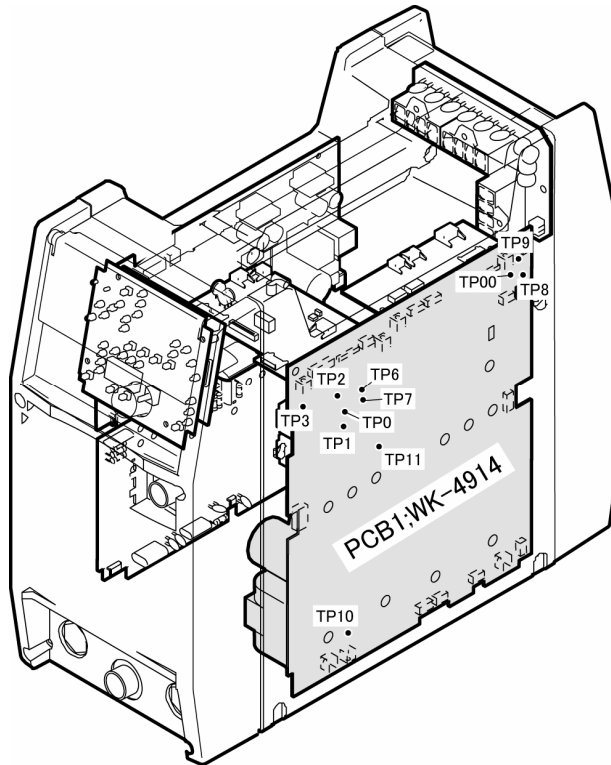

Figure 12 The check points TP0-3, 6-11, 00
- 3) On the PCB1 (WK-4914), measure the voltages according to the following table. The test point and the reference are obtainable on the solder side of PCB1 (WK-4914). The location of points TP0-3, 6-11, 00 are indicated in Figure 12.